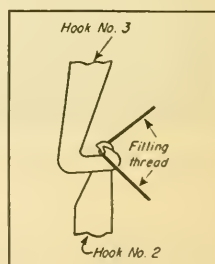

Fig. 6
3. Make a third hook from  $\frac{1}{2}$ -in. flat stock, as shown in Fig. 6, and bend it at a 45° angle. Drill two holes in
After all the hooks are placed on the loom, set the magazine for transferring the filling and bring the lay to the front-center position. Then adjust the hooks as shown in Fig. 6.